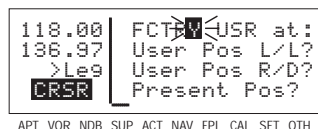

Figure 5-30
- Spell out the rest of the identifier using the right inner and outer knobs (figure 5-30).